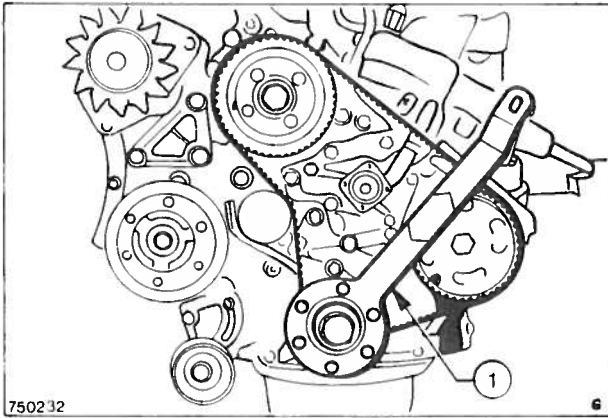

Fig. 7 Locking the crankshaft
11. Remove the timing belt cover, lock the crankshaft using Tool No. 21-018 and remove the crankshaft centre bolt. (Fig. 7).